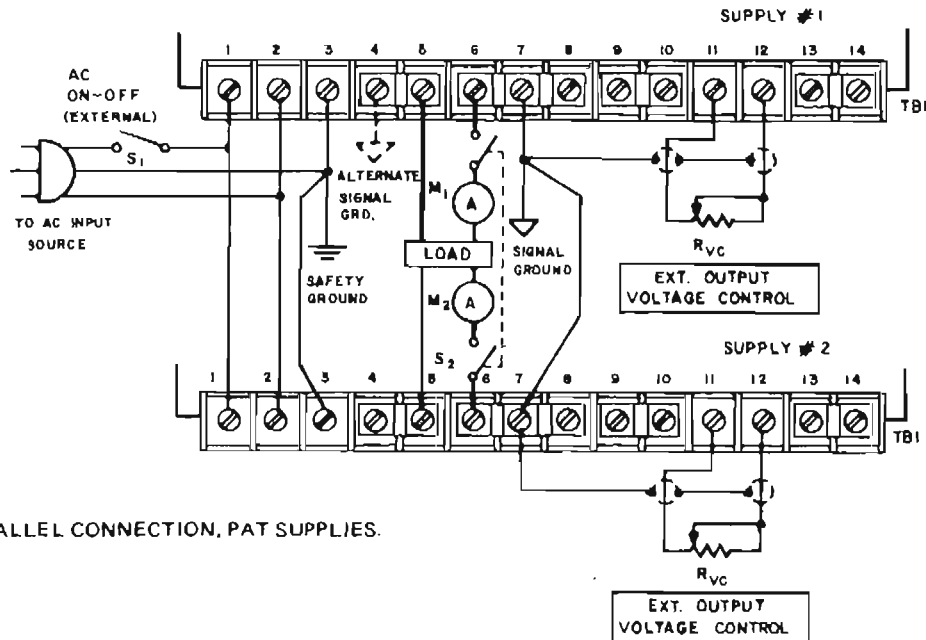

FIG. 3-13 PARALLEL CONNECTION, PAT SUPPLIES.
### 3-38 PROCEDURE (Refer to FIG. 3-13.)
- Connect units as shown in FIG. 3-13. Open SW-1 and SW-2 and connect to line